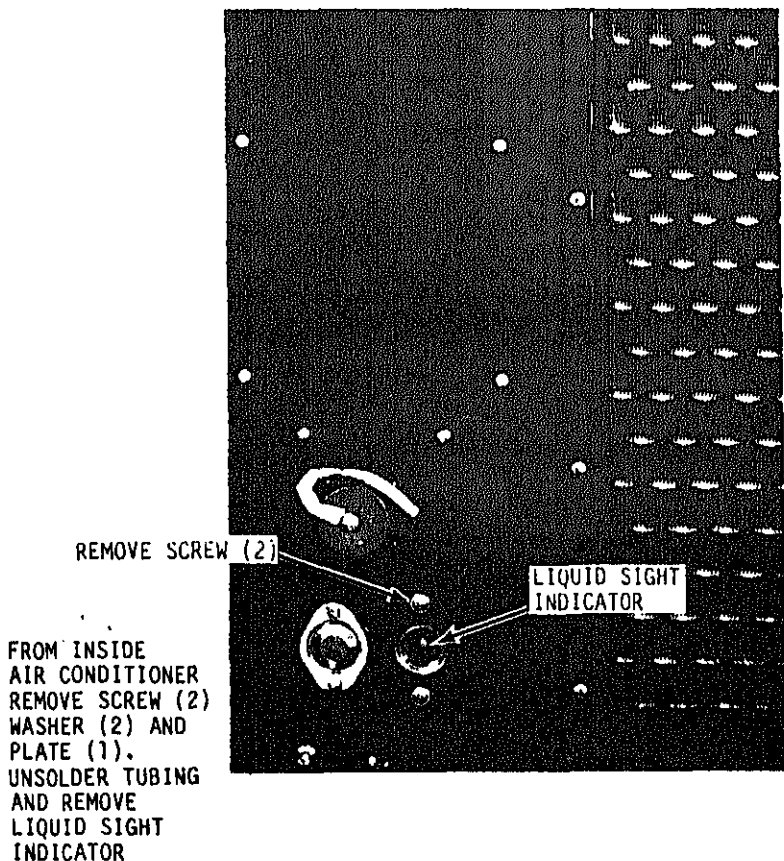

Figure 5-9. Liquid sight indicator removal and installation
a. General. The liquid sight indicator provides a heavy glass port hole to give visible indication of refrigerant flow. Figure 1-2 shows the location and figure 5-9 is a closeup view.
(4) Refer to figure 5-9 and remove the liquid sight indicator mounting plate.
(5) Unsolder the liquid sight indicator from the refrigerant system tubing.
(1) Refer to figure 5-9 and install the liquid sight indicator and mounting bracket.